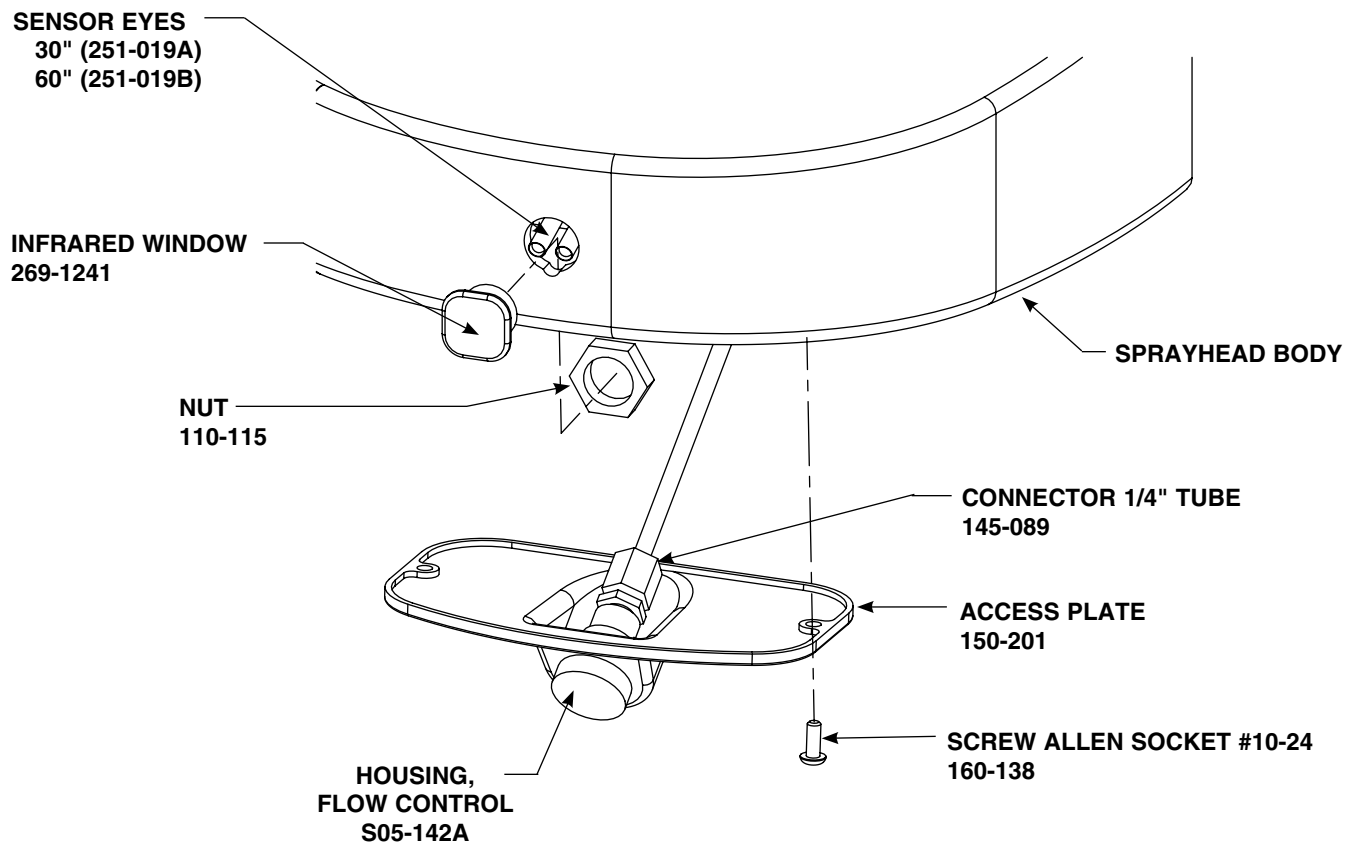

Figure 11a
Remove (2) screws and washers from the access plate assembly using a 1/8" Allen socket wrench. The access plate assembly is located underneath the sprayhead (2) places (see Figure 11a on page 15), the assembly will drop down to access the lens, sensor, and sensor eyes, housing flow control and tube connector.